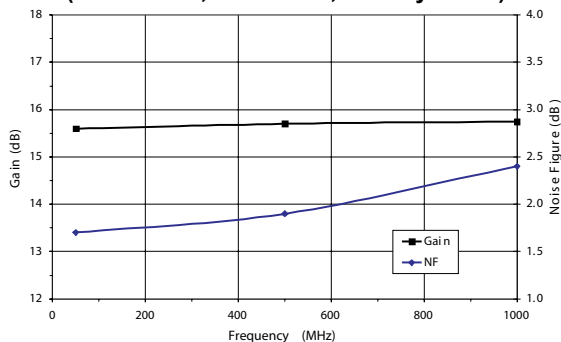

Figure 7: Gain and Noise Figure vs. Supply Voltage - S3 Package Device
- (1) 160 channels, +17 dBmV per channel (measured at output), 6 MHz channel spacing.
(2) 80 channels, +19 dBmV per channel (measured at output), 6 MHz channel spacing.
(3) Two tones, -39 dBmV per tone at input.
(4) The device can be operated at V_{DD} = +6 VDC for lower power dissipation. Refer to Figures 7, 8, 13, and 16 for performance variation with supply voltage.